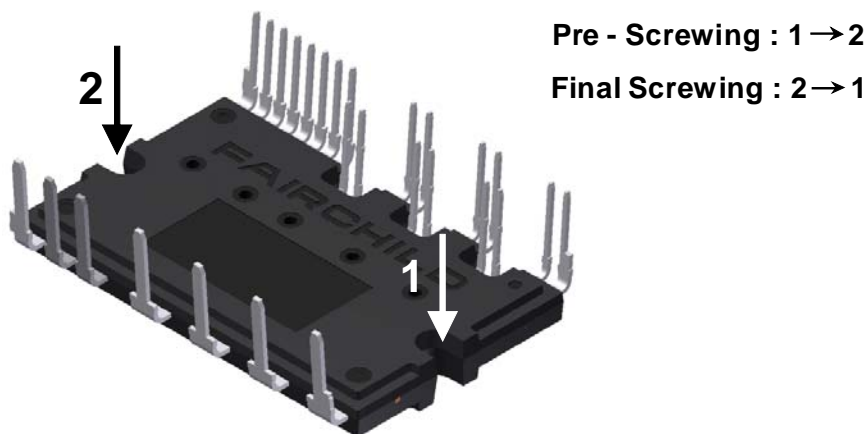

Figure 10. Mounting Screws Torque Order
12. Avoid one side tightening stress. Figure 10 shows the recommended torque order for mounting screws. Uneven mounting can cause the ceramic substrate of the Motion SPM 3 product to be damaged. The Pre - Screwing torque is set to 20 ~ 30% of maximum torque rating.